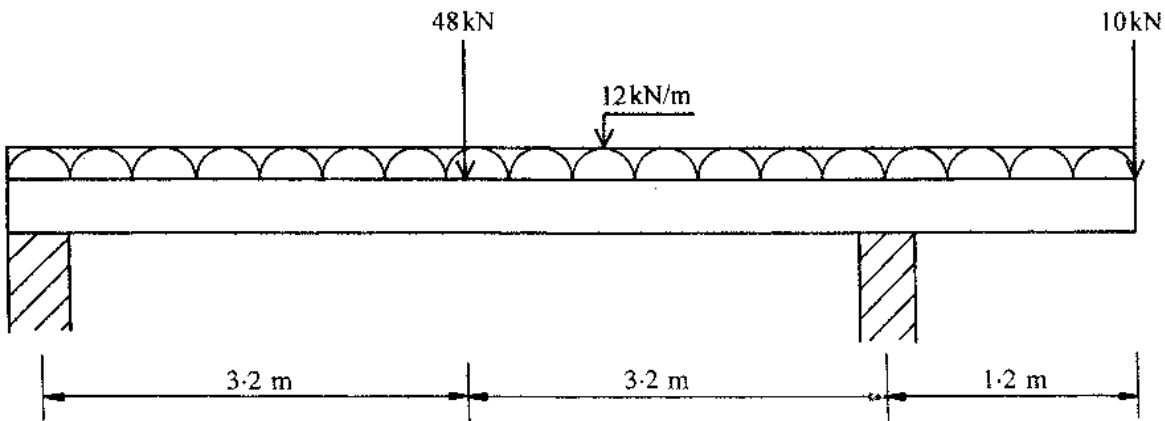

Figure Q10
- (b) Figure Q10 shows the elevation of and loading diagram for a beam.